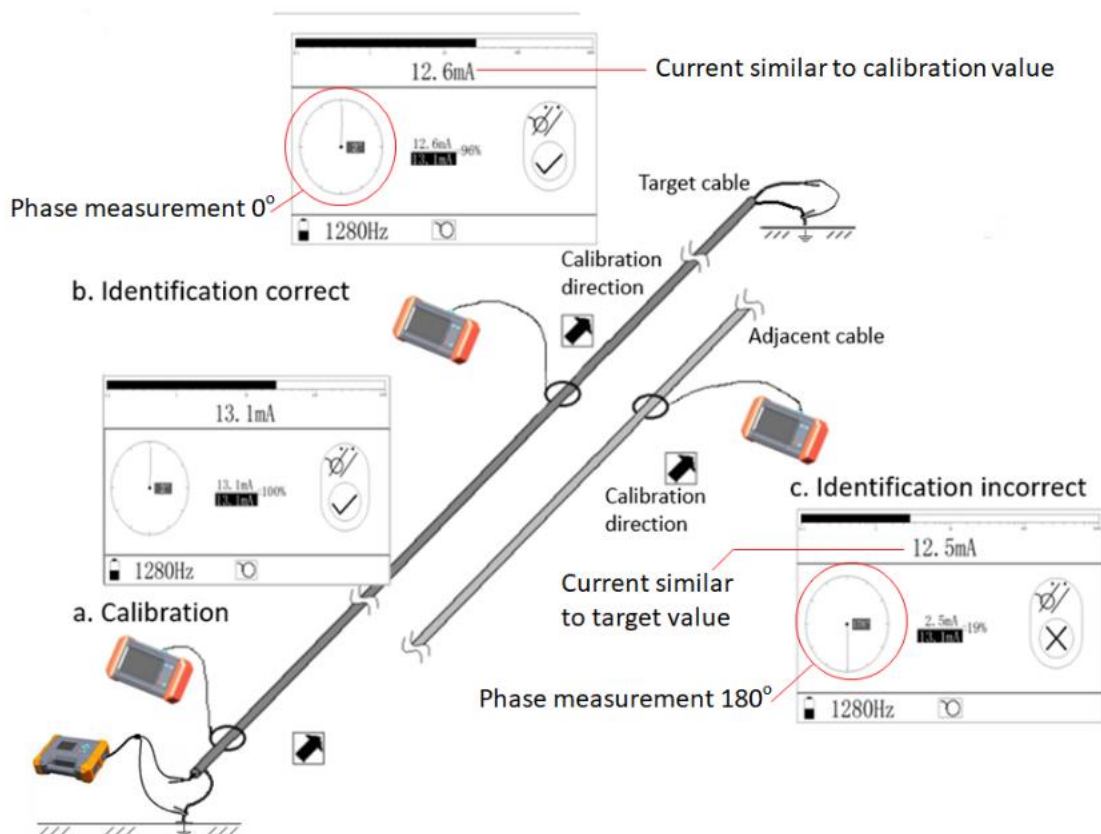

Figure 5.6: Results for three parallel cables with core conductor earth connection
- The second example (Figure 5.6) shows two cables which are in the same path (including the target cable). The measurement result shows the target cable current is I (in this example 12.6mA) and the phase is near 0° , indicating that the identification is correct. The other adjacent line current is also I, but this time the phase is near 180° which indicates it is not the target cable. In this case, because the current value is almost the same, it can only be distinguished by the phase, and special attention should be paid to the sensor arrow direction.